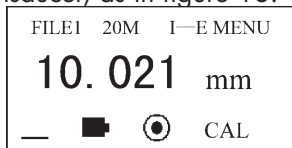

Figure 16
- d. Test the material sound velocity by using E-E mode, then measure the thickness by using I-E mode, press CAL to freeze the thickness value and remove transducer, as in figure 16.